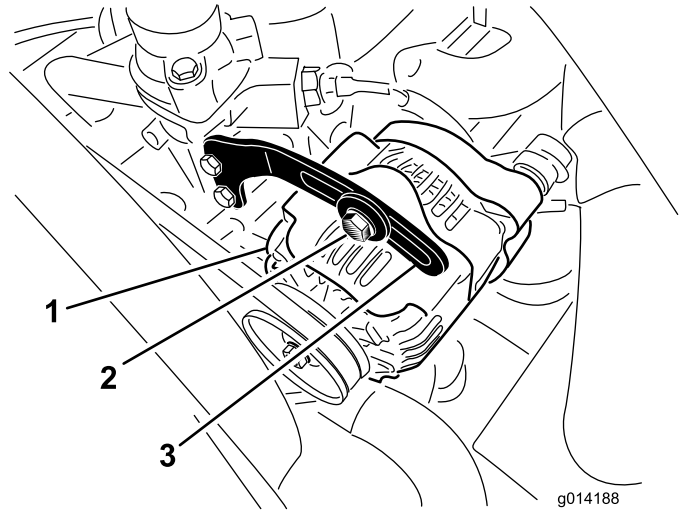

Figure 49
2. Check the tension of the alternator belt by depressing it (Figure 49) midway between the alternator and the crankshaft pulleys with 10 kg (22 lb) of force.
3. Loosen the bolt securing the brace to the alternator (Figure 49), and the alternator pivot bolt.